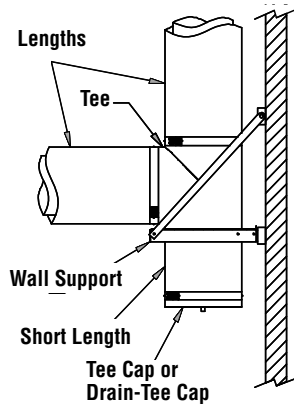

Figure 10 - Base Supported Tee
- If it is not possible to suspend the tee, it may be supported from the base (see **figure 10**). When this is necessary, a short length should be installed between the tee and the tee cap or Drain-Tee Cap for a good clean-out or inspection access.